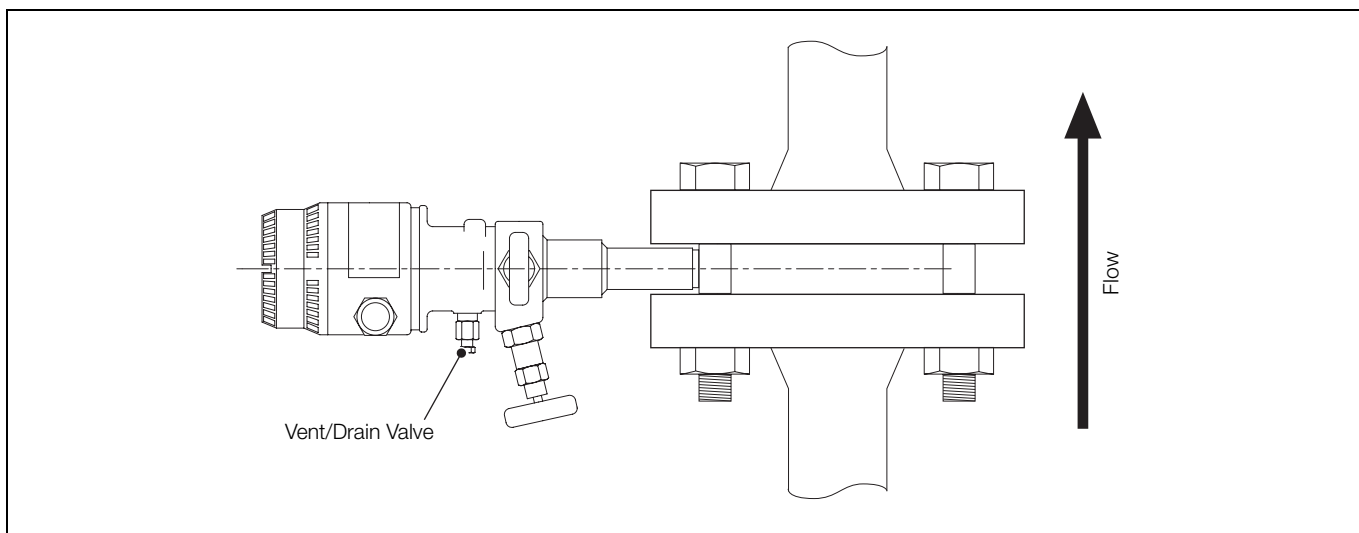

Fig. 2.5 Vertical Pipe Mounting – Gas
- for vertical pipe mounting – gas, refer to Fig. 2.5.